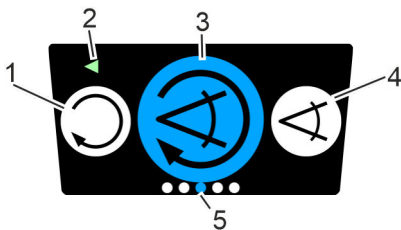

Fig. 38: Navigation
- In the middle, the currently selected menu item (Fig. 38/3)
- To the left and right of this, the next menu items (Fig. 38/1 and 4)